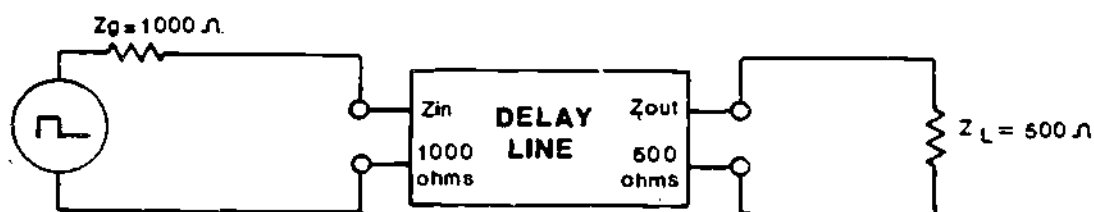

Figure 19
19. As a technician working with delay lines, you will not be concerned with designing the devices. However, it is necessary for you to know their performance characteristics as previously discussed. One other important characteristic is that a delay line should be impedance matched to both the input source and output load. This is done to provide maximum energy transfer with minimum distortion of the signals. Figure 19 shows an example of impedance matching.